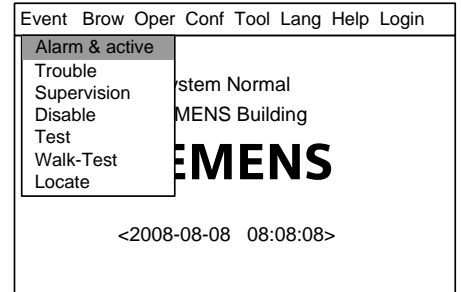

Fig. 33-1
1. Press "Menu" to browse the main menu (Fig. 33-1).